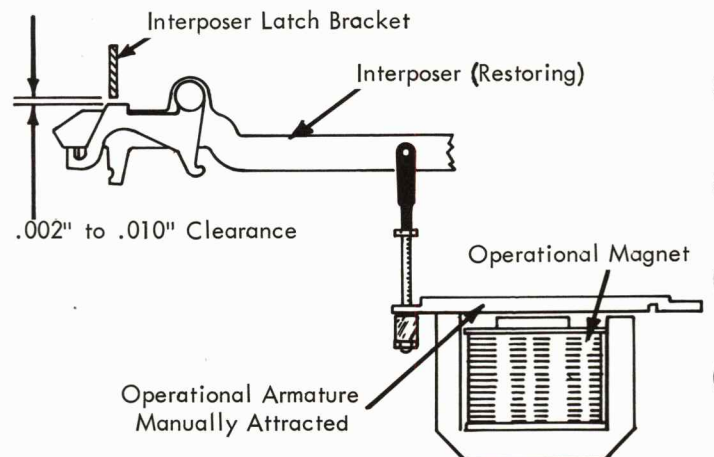

FIGURE 128.5 Check, Trip Link
4. Pull Link (Fig. 128.5) - Adjust the operational pull links so that a .002" to .010" clearance exists between the interposer latch bracket and the interposer latch at the point of relating.